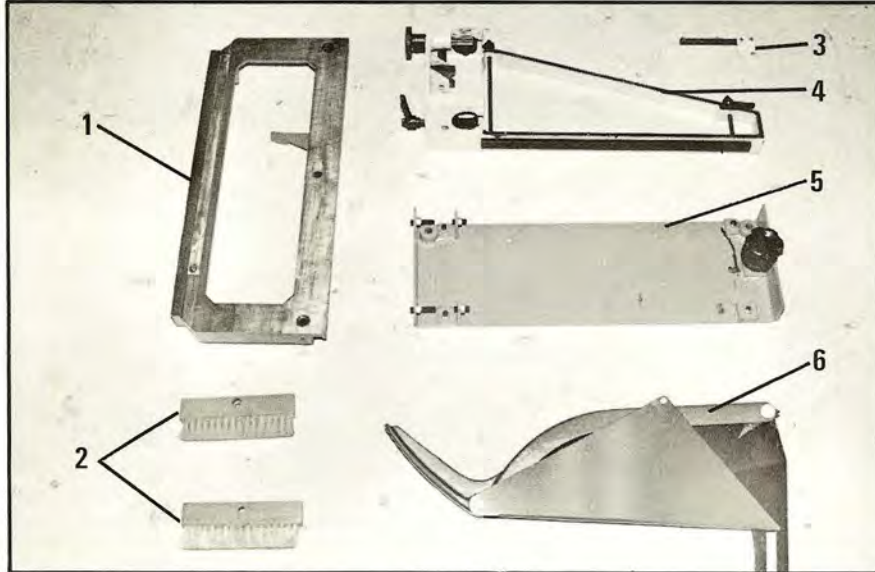

Fig. 2
2. Make sure all loose items such as table extension, guide rail, rip fence and other unassembled parts and accessories have been delivered with the machine. Figs. 2 and 3, show all loose parts shipped with the machine.